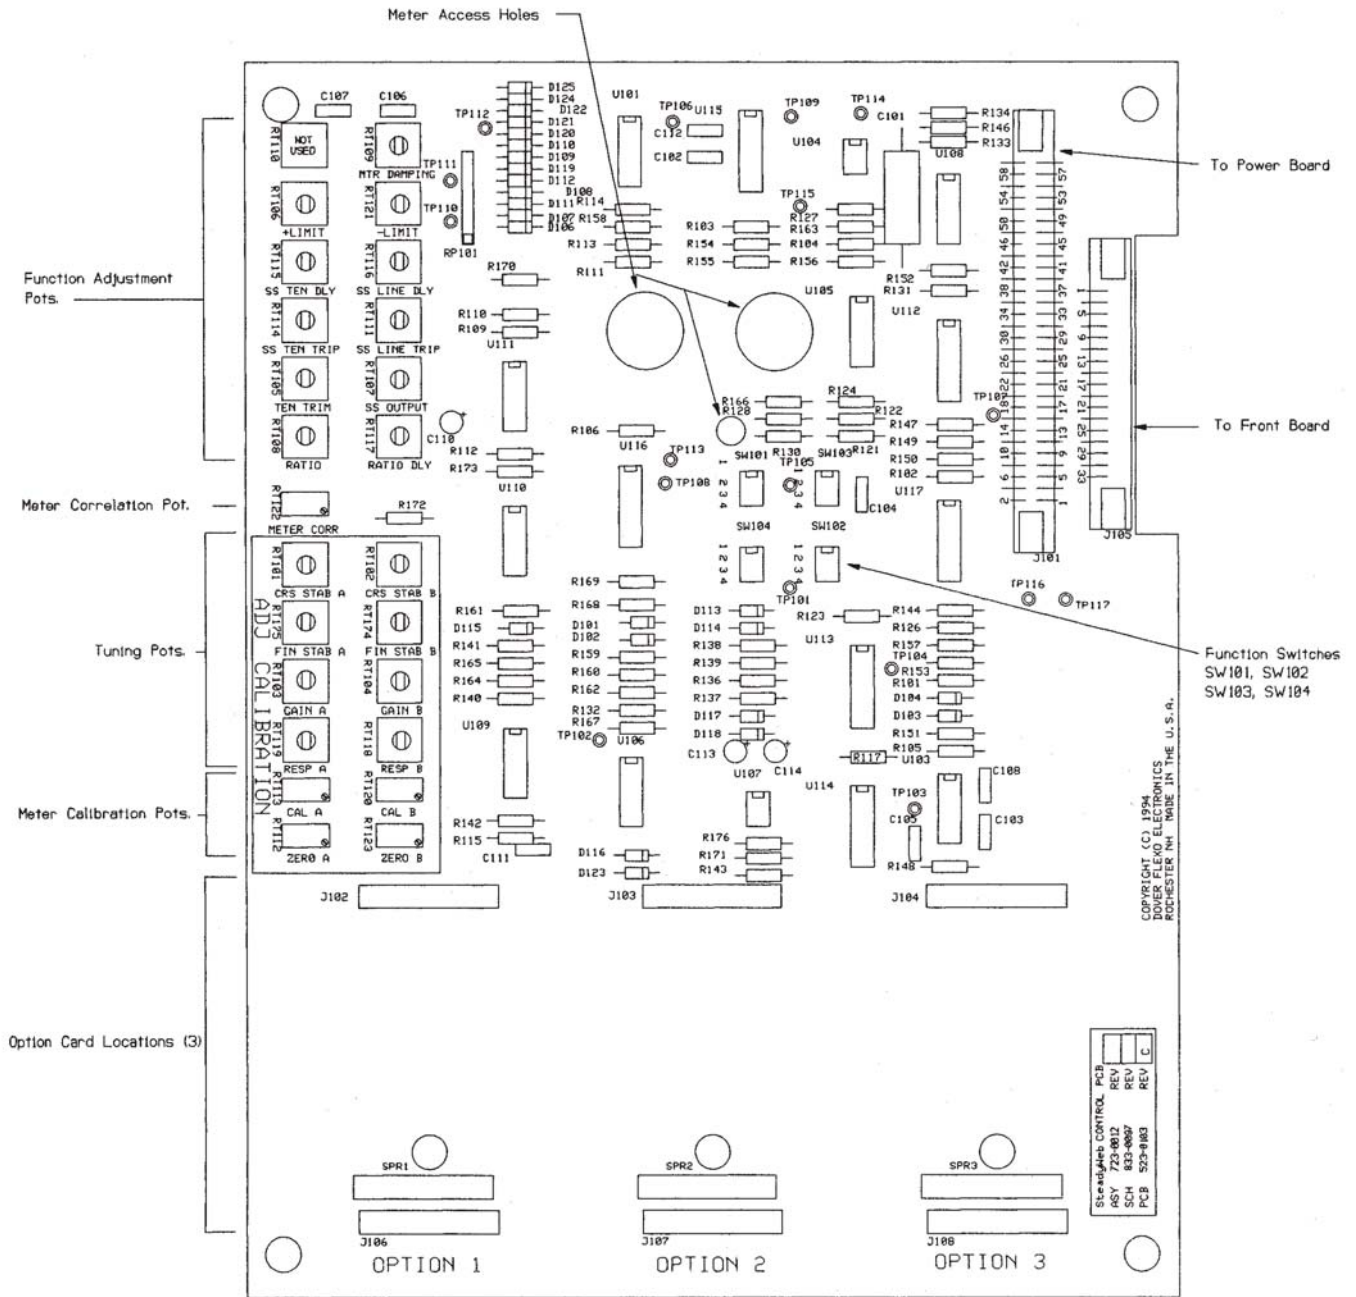

Figure 16 - CONTROL BOARD
(Refer to Figure 16 or 41 for adjustment pots.)
(See page 4 for description, Figure 16 for switch and adjustments)
5.8 METER CORRELATION (See Page 4 for description, Figure 16 for adjustment)
5.9 METER DAMPING (See Page 4 for description, Figure 16 for adjustment)
5.10 OUTPUT DIRECTION (See Page 4 for description, Figure 16 for switches)